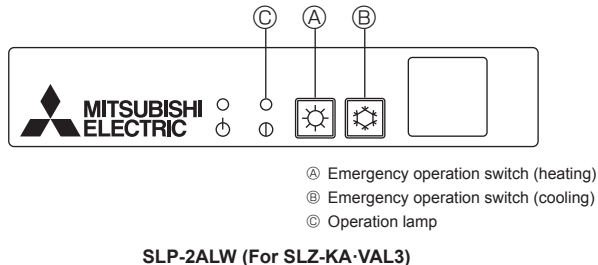

Fig. 9-1
9.2.1. For wireless remote controller (Fig. 9-1)